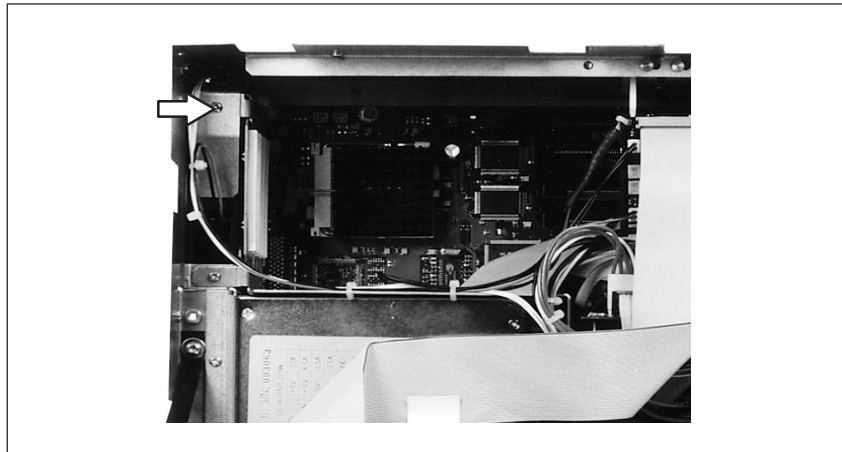

Figure 1-21 Removing the fan
- First release the screw to remove the angle brackets (see figure 1-21).